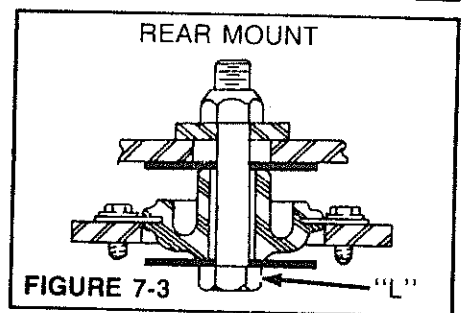

FIGURE 7-3 "L"
6. Connect rear of engine support as shown in Figure 7-3.
9. Route fuel line through heat shield and secure to fuel line (H).
10. Pull harness through heat shield and connect at electric clutch (F) and main harness plug (E). Secure harness to engine or engine mount with cable ties.
11. Connect (red) lead (D) from solenoid to engine starter.
12. Connect (black) lead of harness and (Neg) lead of battery (C) to engine.
13. Install hood and plug (B) in headlight harness.
15. Install (black) battery lead (A) to battery.